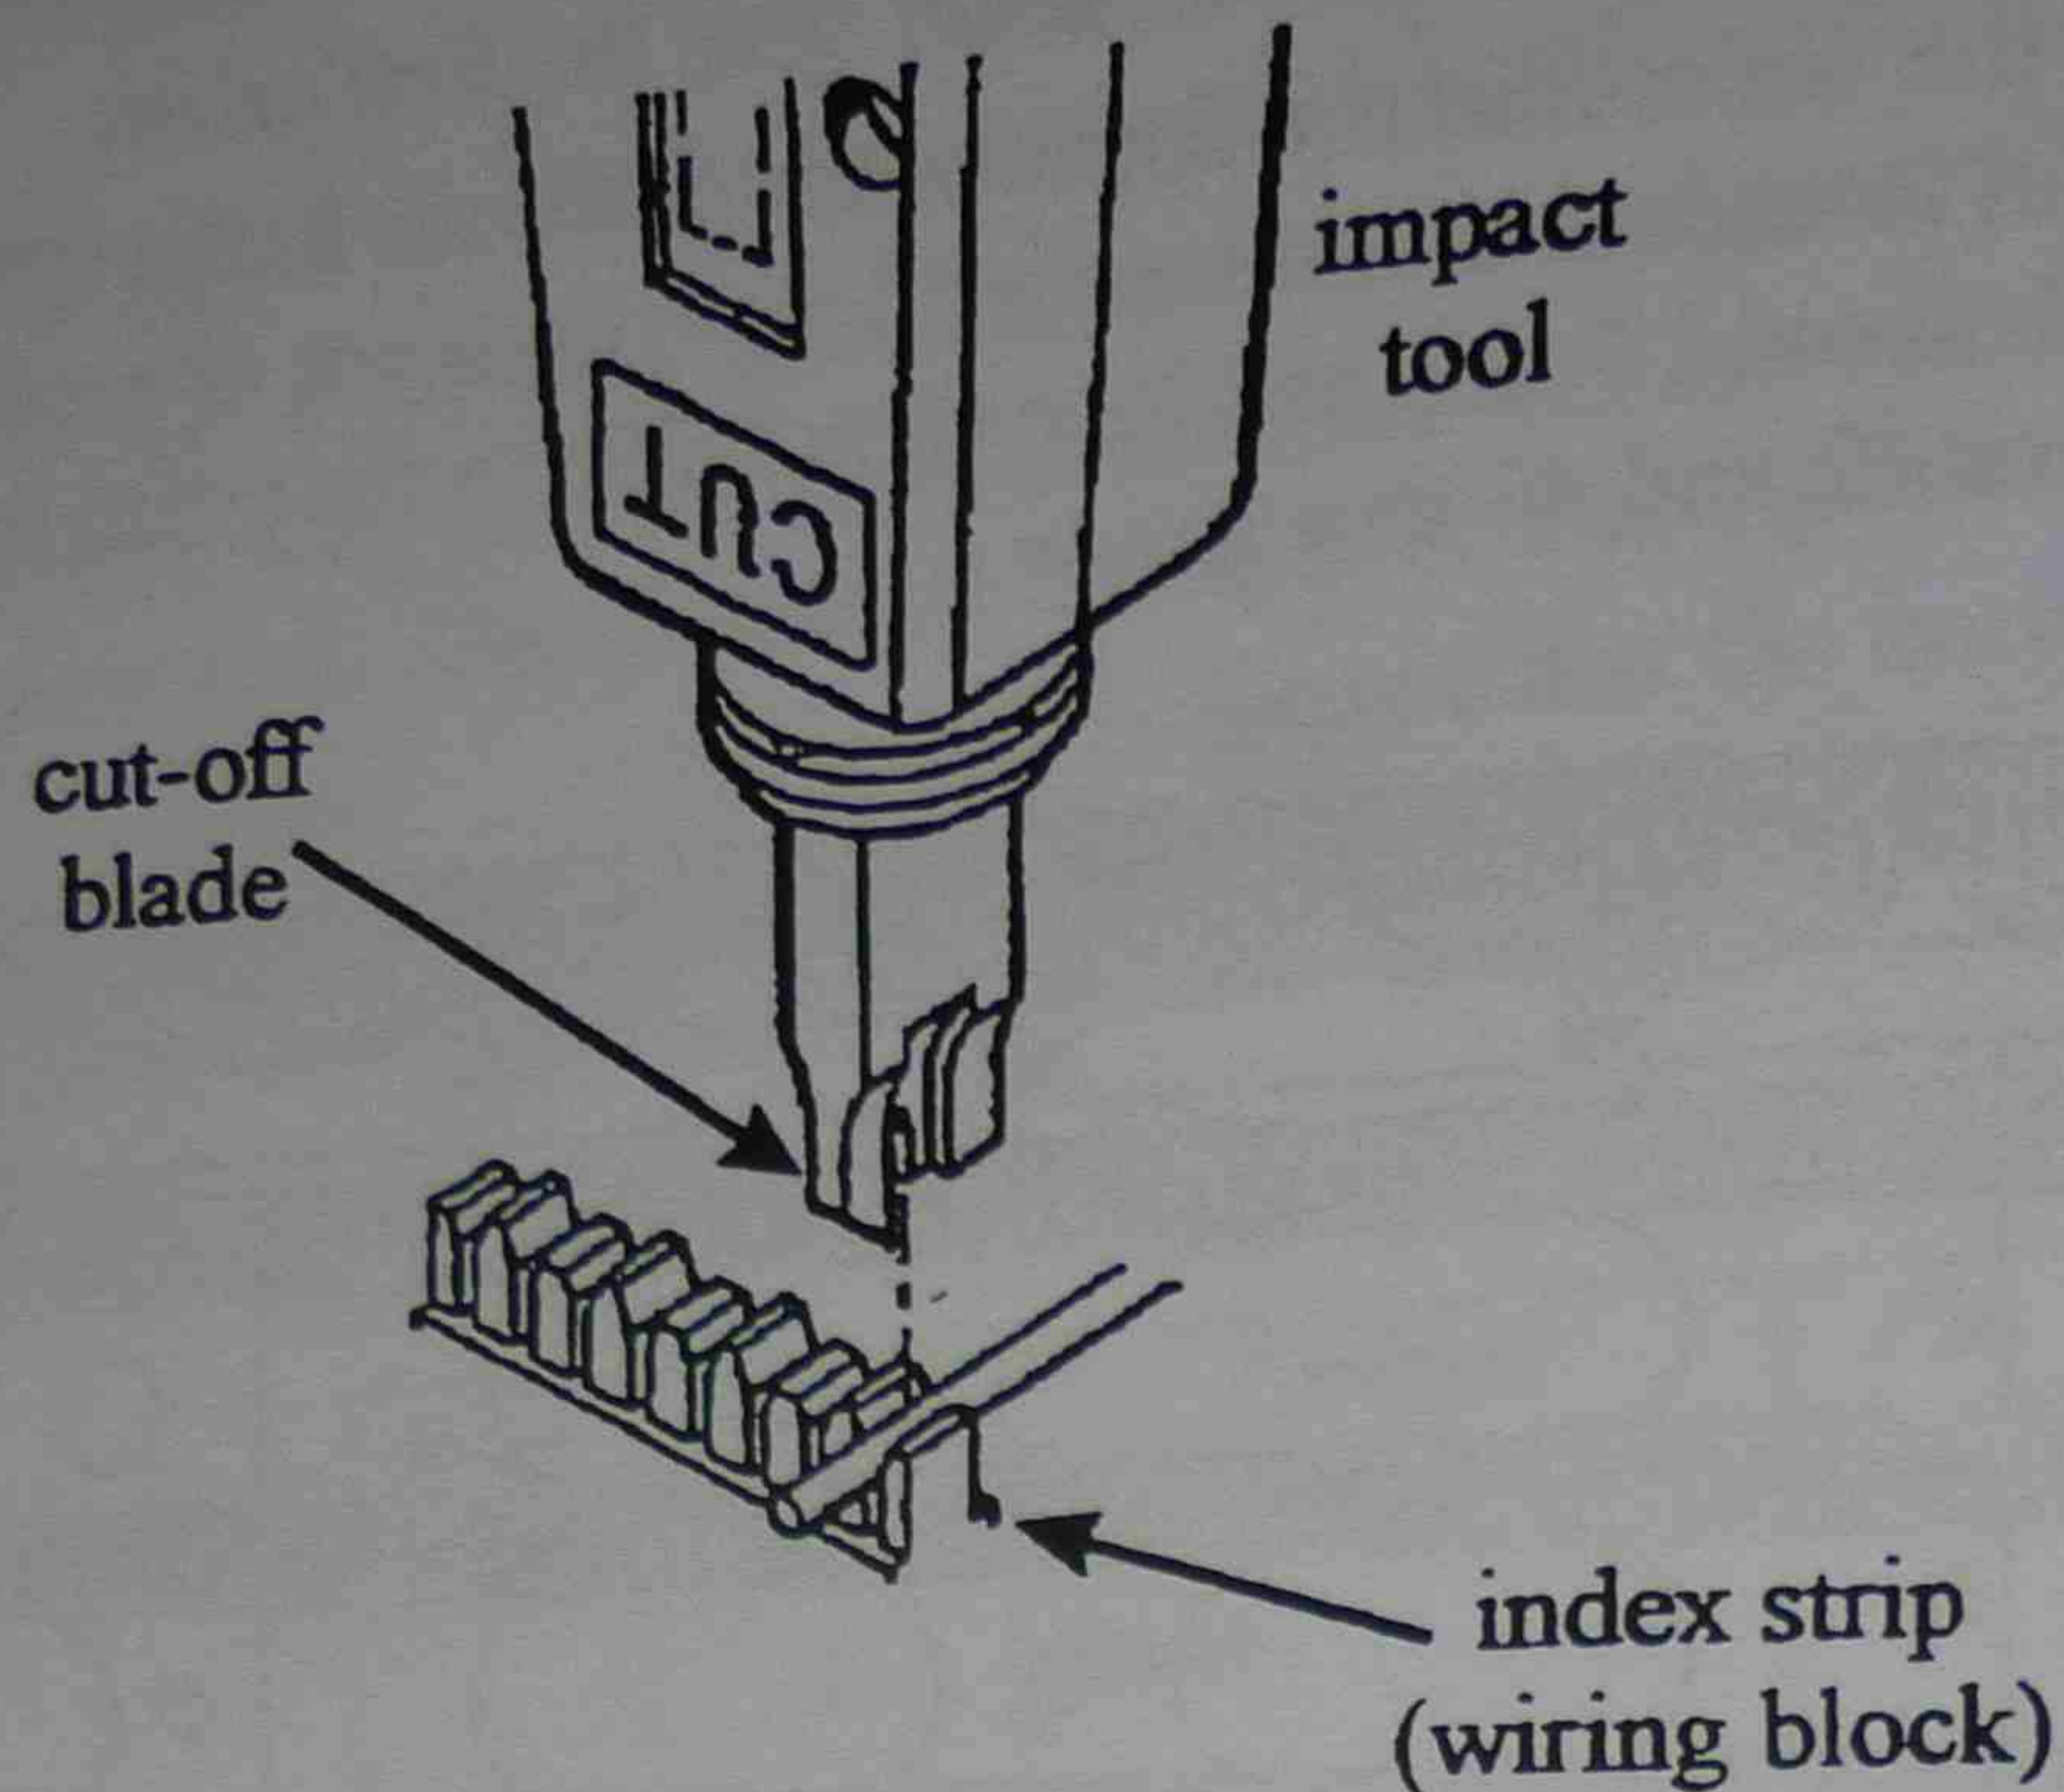

Figure 44 Terminating cabling in wiring block
13. Seat the conductor using an impact tool or equivalent. Use Figure 44 as a guide.